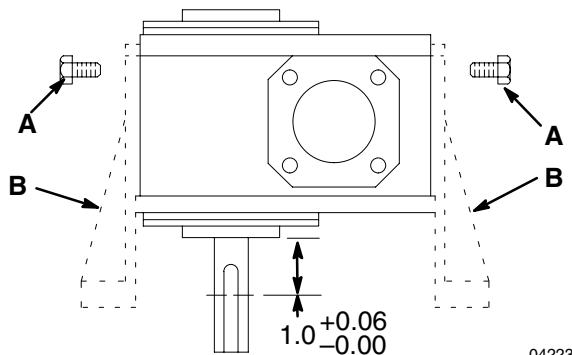
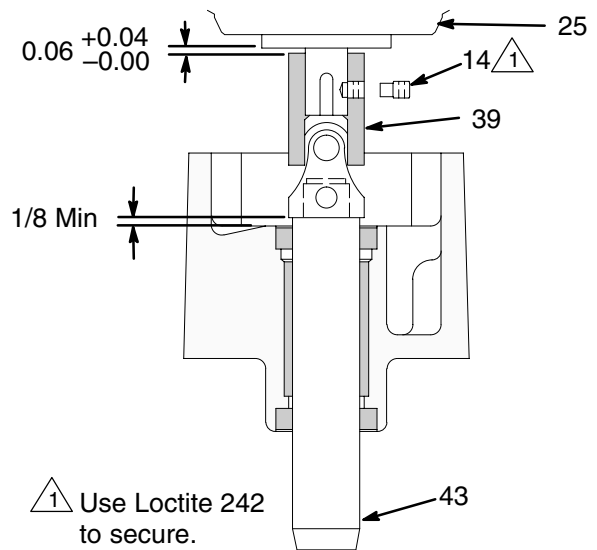

Fig. 3
Fig. 4
2. Remove shaft (19) and coupling (12).
3. Remove screws (26), washers (27), and gear reducer (29) with universal shaft assembly (20).
4. Remove universal shaft assembly (20) from gear reducer (29). Save key (13).
5. Remove screws (26) and washers (27) and remove electric motor (28) from gear reducer (24).
6. Remove screws (6) and washers (2) and remove gasket (15) and gear reducing mount (17).
7. Remove four screws (A) and remove two mounting feet (B) from gear reducer (Fig 3).
1. Cut output shaft of gear reducer (29) with a band saw per dimension in Fig 3.
2. Cut and shape key (13) to fit shortened keyway of output shaft.
2. Fig 3. Install two mounting feet (B) on gear reducer (24) with four screws (A).
3. Install gasket (12) and gear reducing mount (14) with washers (2) and screws (6).
4. Install electric motor (27) on gear reducer (24) with screws (25) and washers (26).
5. Assemble universal joint (17) and agitator shaft (23) with shoulder screw (19), washer (21), washer (20) and locknut (18).
6. Slide universal joint (17) on output shaft of gear reducer (24) and locate as shown in Fig 4.
- NOTE:** Location of universal joint is not critical, but make sure that dog set screw (22) is pushing on key (13). Dog set screw supports the weight of the shaft.
7. Install gear reducer (24), universal joint (17) and shaft (23) with screws (4), washers (2) and spacers (28).
8. Install shaft (16) and coupling (10).